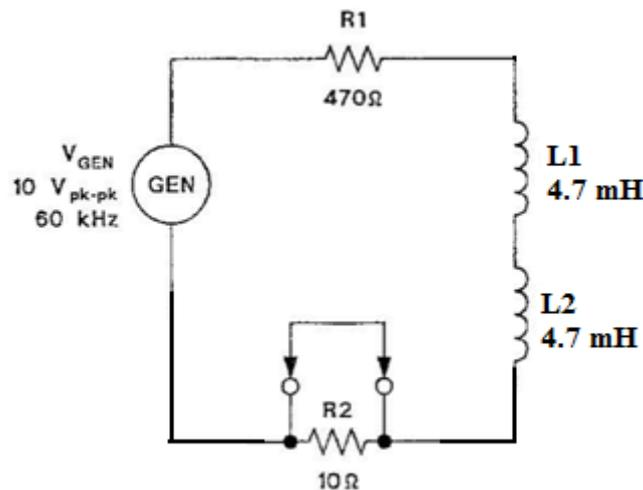

Figure 3-1: Series RL Circuit
1. Locate the **INDUCTANCE/INDUCTIVE REACTANCE** circuit block and connect the circuit shown in Figure 3-1. Measure coil resistance of R_{L1} , R_{L2} and total R_{L1} & R_{L2} . Record in Table 3-1.